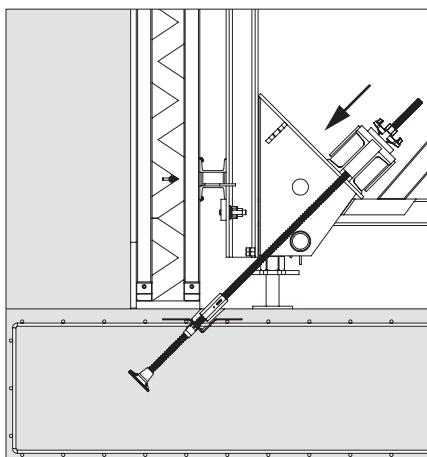
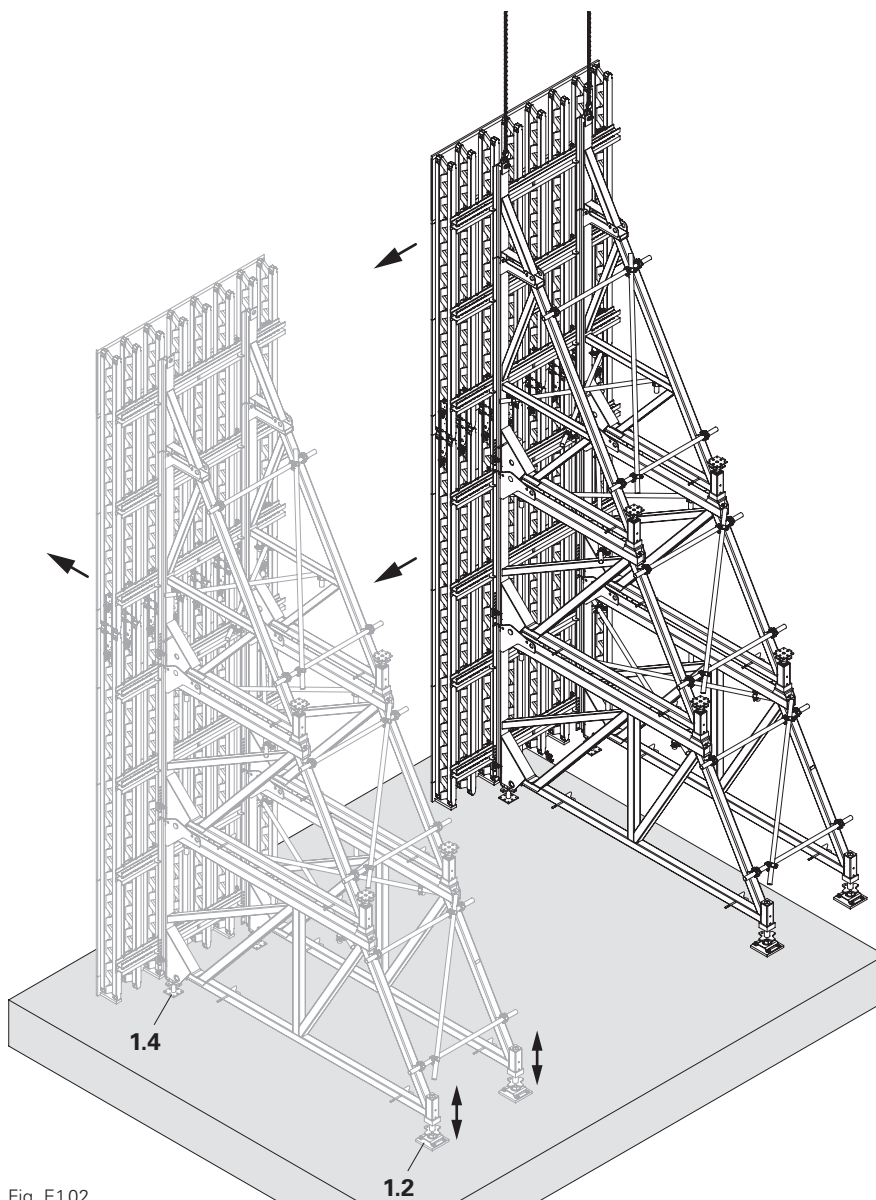

Fig. E1.02a
Fig. E1.02
7. Fit brace frames to the tie components in the substrate using recoverable tie components. See Section "A3 Tie technology" on page 27. (Fig. E1.02 + Fig. E1.02a)